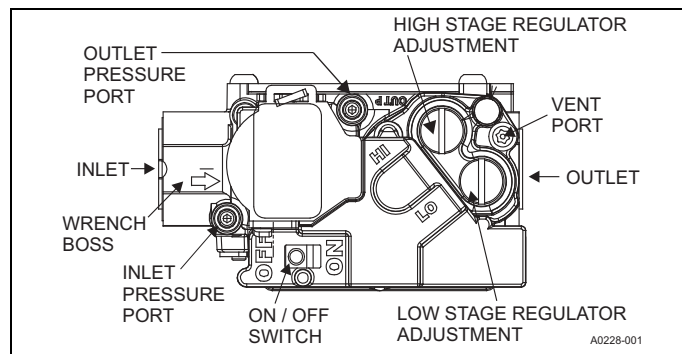

Figure 10: Gas valve
Inlet and manifold gas pressure can be measured by connecting the U tube manometer to the gas valve with a piece of tubing. Follow the appropriate section in the instructions below. See Figure 10 for the locations of the pressure ports on the gas valve.
Connect the positive side of the manometer to the port marked OUT P on the gas valve. Do not connect any tubing to the negative side of the manometer to prevent atmospheric pressure from being referenced by the manometer. See Figures 10 and 11 for connection details.
This gas valve has separate regulator adjustment screws for high fire and low fire as shown in Figure 10. The procedure below is used to adjust either the high fire manifold pressure or the low fire manifold pressure.
1. See Figure 10 for location of pressure regulator adjustment cap and adjustment screws on main gas valve.
3. Connect unit control wiring leads W1, W2, and R together so the equipment operates on high fire. Once correct manifold pressure is set (HI), remove control wire lead W2 so the equipment operates on low fire. Set the manifold pressure (LO) to correct manifold pressure.